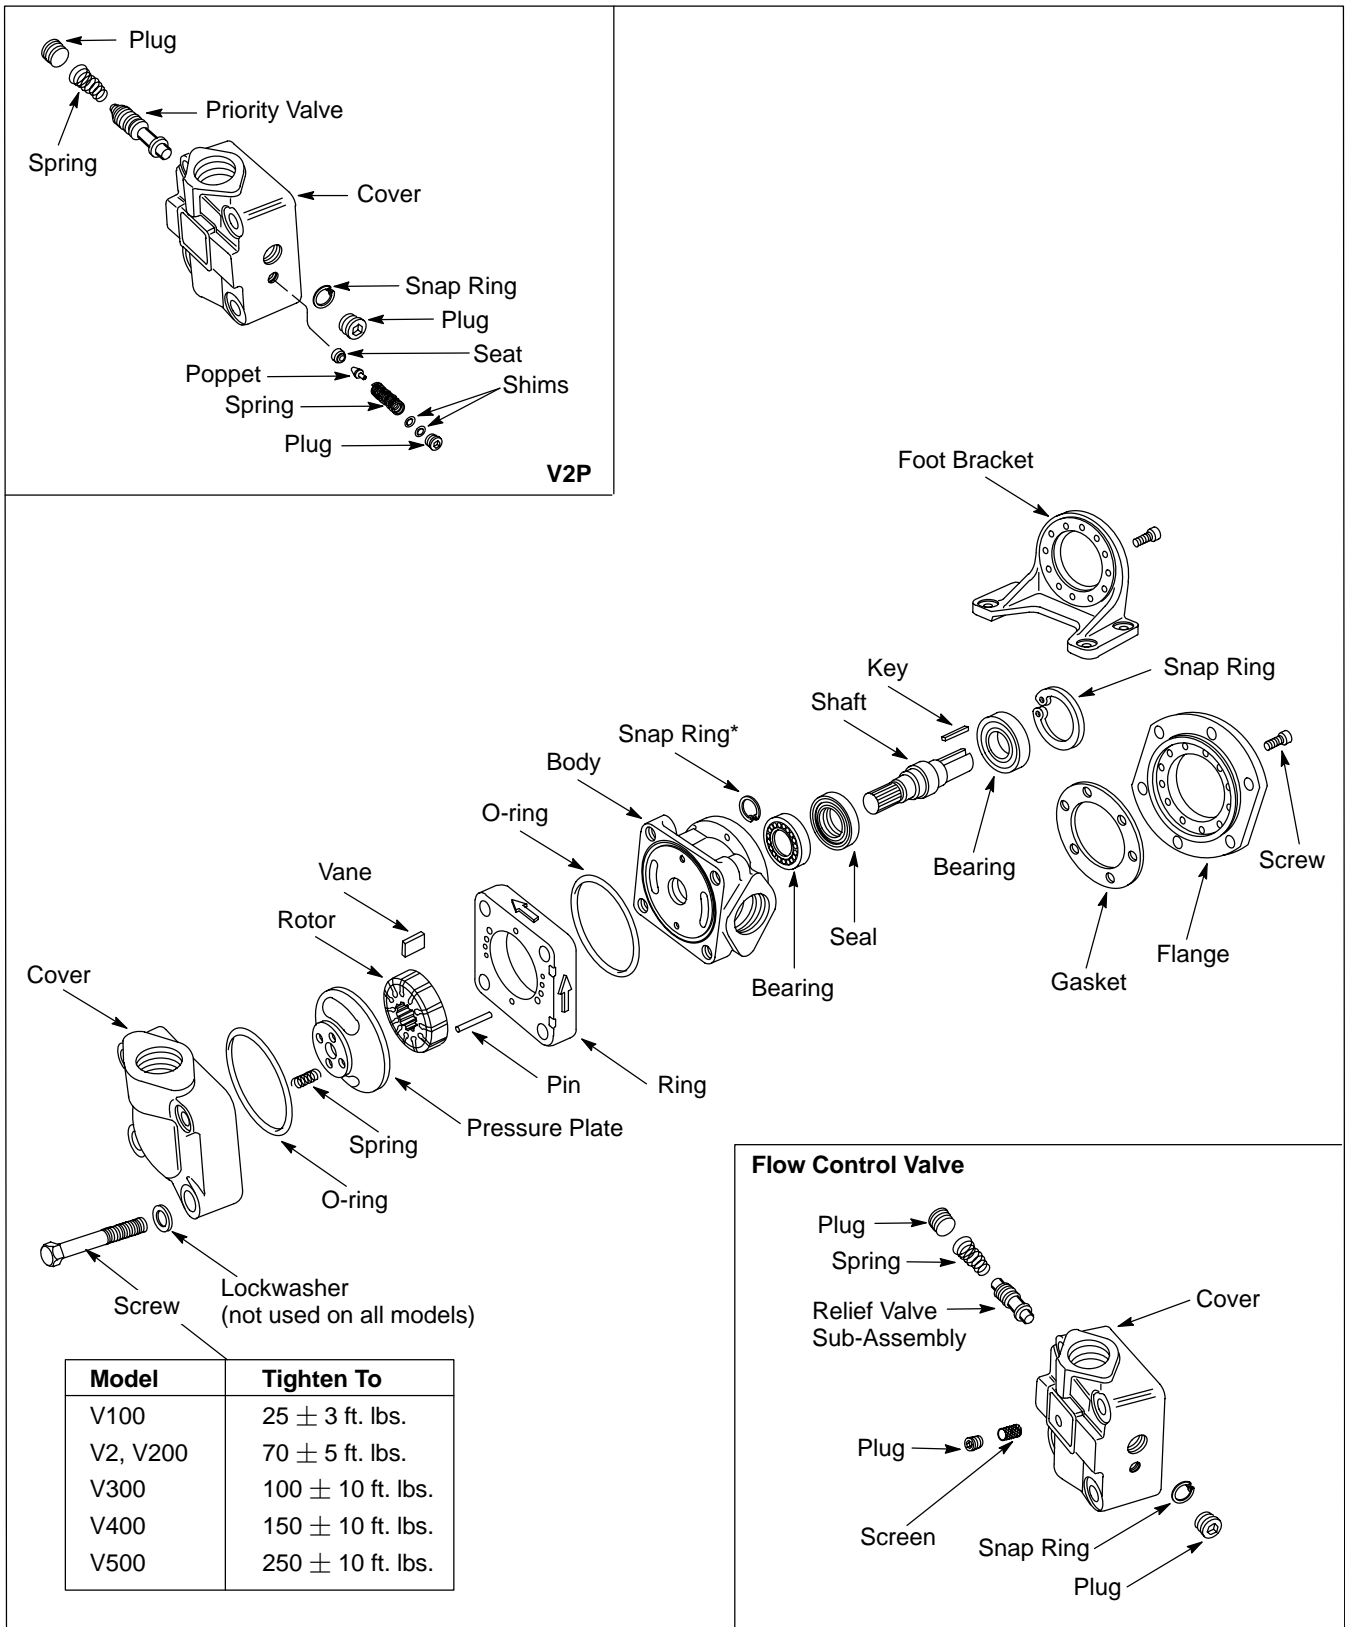

Figure 7.
Pump bearings are pressed in the bodies or on the shafts and should not be removed unless defective. Figure 7 is an exploded view which shows the proper relationship of the parts for disassembly and assembly. Refer to Figure 1 and Figure 7 for the correct assembled relationship of the parts.
1. Disassembly of Basic Pump – See Figure 7. If a foot bracket is used, remove before dismantling the pump. Clamp the pump body in a vise (not too tightly), cover end up, and remove the four cover screws. Note the position of the cover port with respect to the body port before lifting off the cover and “O” ring. (See paragraph 2 for disassembly of flow control covers).
2. Disassembly of Flow Control and Relief Valve Covers – See Figure 7. If a screen is used in the cover, remove the plug and pull out the screen. Do not remove the orifice plug unless it is necessary. Check whether there is a plug at each end of the relief valve bore. If the bore is blind, remove the plug and the snap ring to release the valve and spring as shown in the inset view, Figure 7. If the bore is through the cover, remove only the one plug to release the spring and valve. Leave the snap ring and the other plug in the cover.
1. Assembly of Flow Control Cover – See Figure 7. If the cover has a through bore, insert the valve in the bore, small land first. Then install the spring and pipe plug. For models with the blind bore, first install the spring, then the valve, with the hexagon head end first. Follow this with the snap ring (being certain it is firmly seated in the groove) and the pipe plug. Install the screen and the plug which retains it.
Priority Valve – Install the snap ring within the priority valve cover bore; make sure the snap ring is seated within its groove. Insert the priority valve spool, small land first, into the bore. Install plugs at each end of the bore and secure. Refer to Figure 7 for spool orientation.
3. **Assembly of Pump** – See Figure 7. Begin assembly by pressing the shaft into the front bearing while supporting the bearing inner race. Next, press the inner bearing into the body, using a driver which contacts the outer race only. Be certain both bearings are firmly seated.